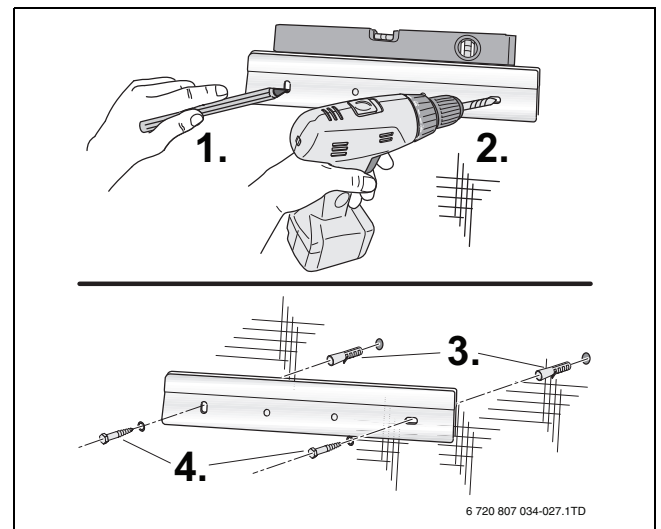

Fig. 34 Installing the mounting bracket on the wall
- ▶ Mark holes using the mounting bracket supplied (→ figure 34).